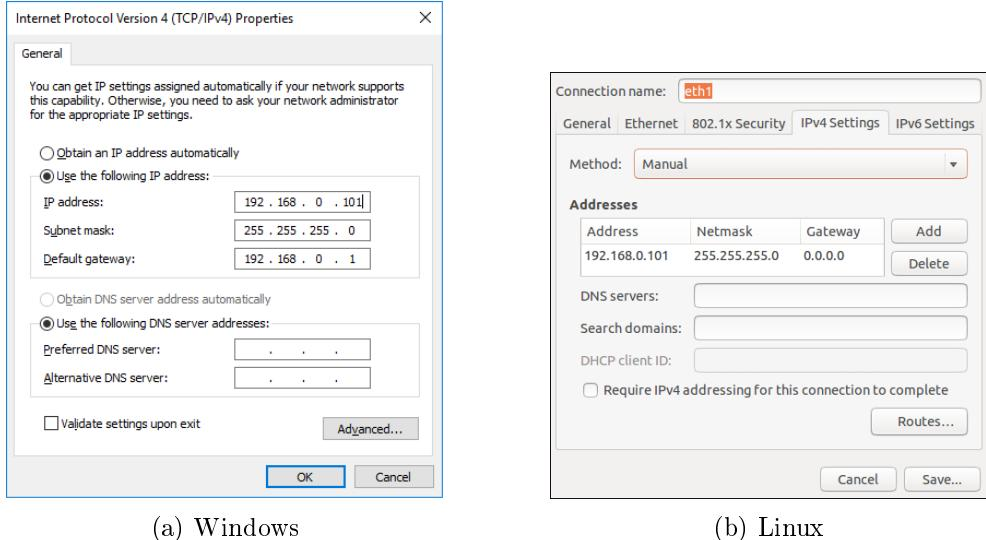

Figure 6: Two examples of how to configure the IP address of your computer
7. Configure your computer with a static IP address. The way to do this differs from one operating system to another. Figure 6 shows how to do this in Windows and in Linux.